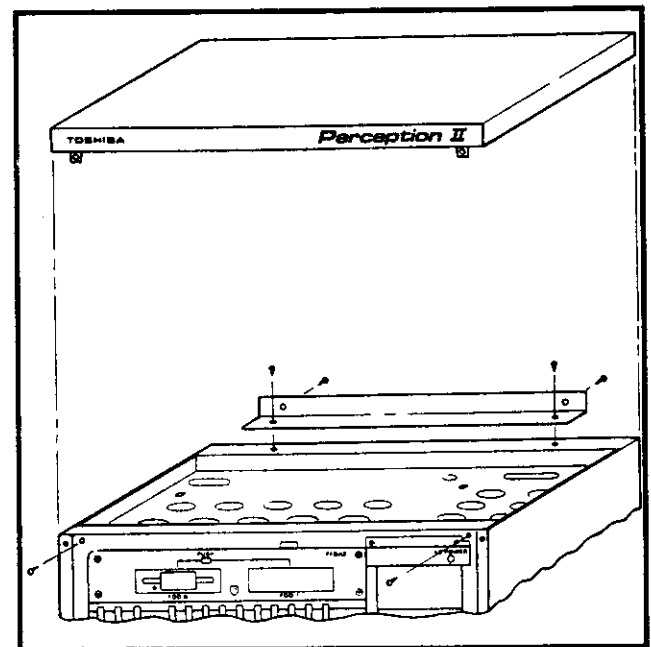

FIGURE 12—BASIC CABINET TOP COVER
- 1) Remove and save the four screws securing the basic cabinet top cover and lift the cover off the cabinet (Figure 12).